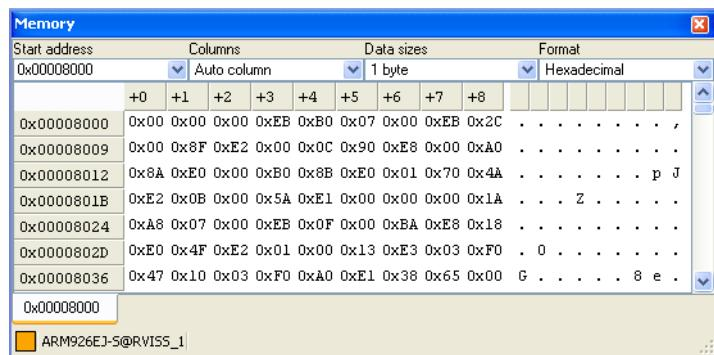

Figure 13-32 Memory view at a value in a variable
- Select **View Memory at Value** from the context menu to display the Memory view. The start address is set to the value of the chosen variable. Figure 13-32 on page 13-42 shows an example: